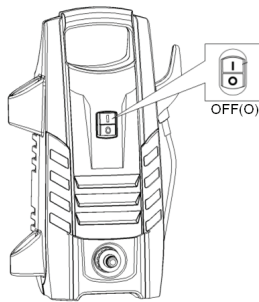

Figure 13
1. Press the ON/OFF switch to the OFF position marked O. See figure 13.